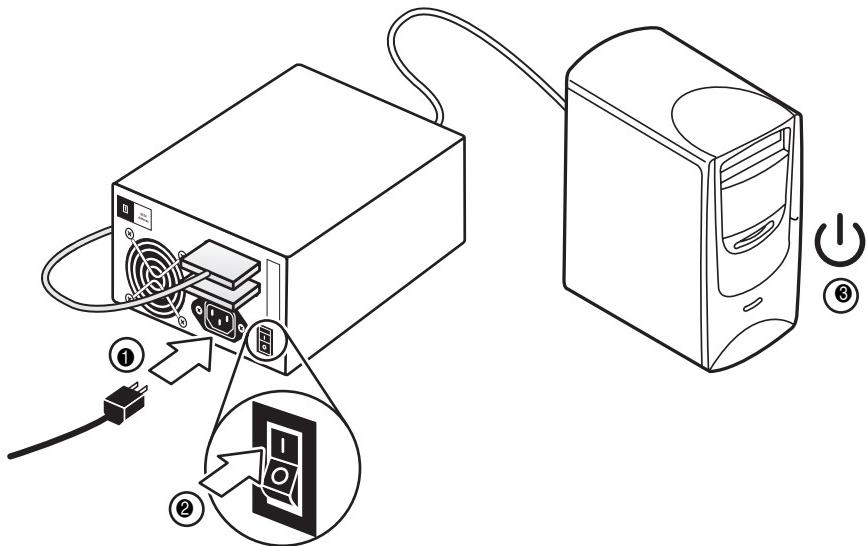

Figure 7: Connecting power
3. Connect power to the drive. Power on the drive first, and then the host system (see Figure 7).